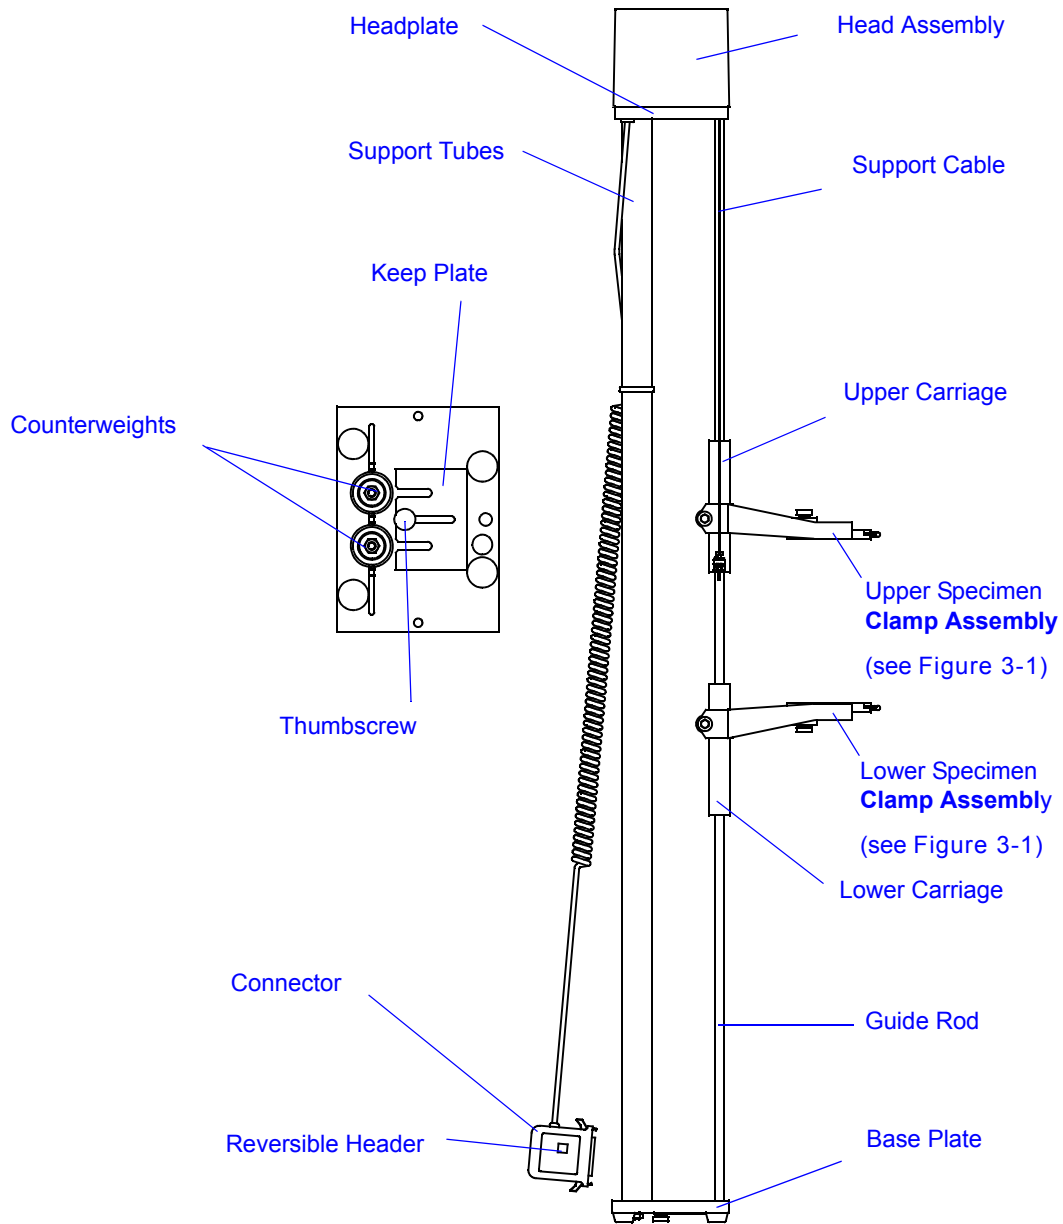
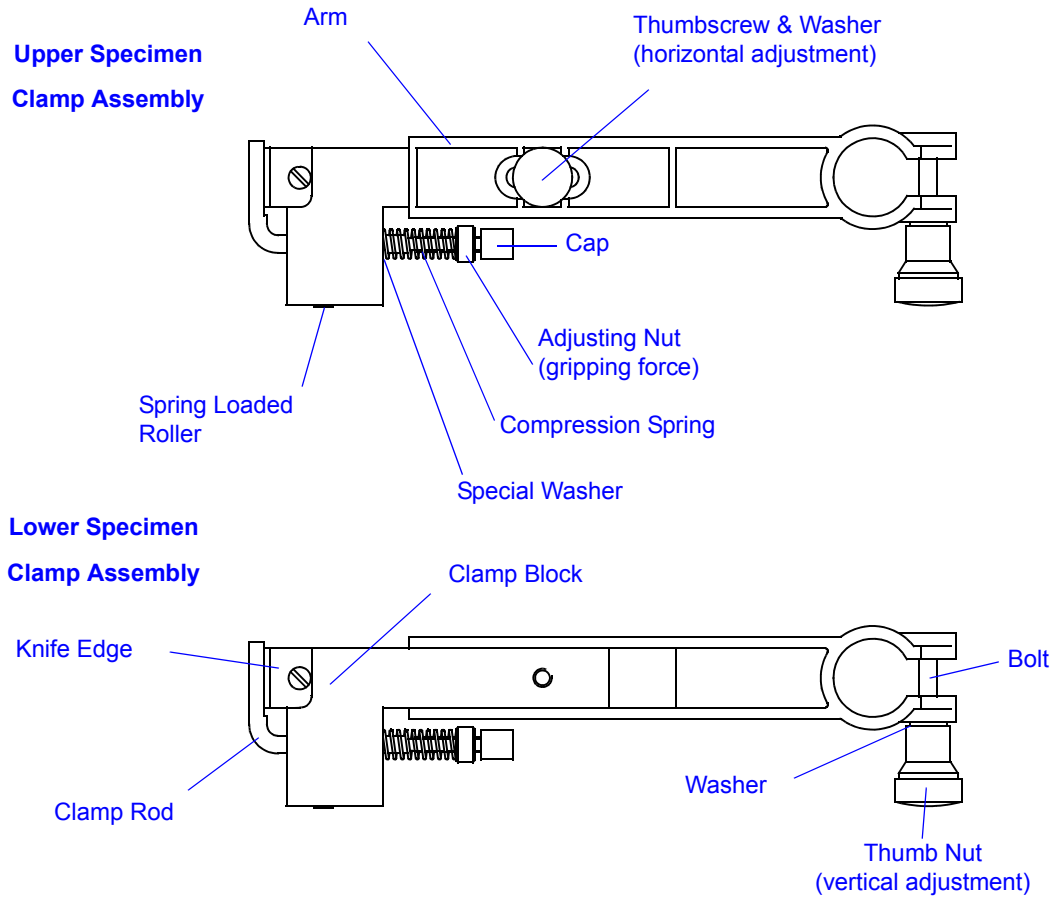

Figure 1-1. The Long Travel Elastomeric Extensometer
Figure 3-1. Specimen Clamp Assemblies
Operation of the Long Travel Elastomeric Extensometer is based on a pair of separately counterbalanced clamp assemblies (see Figure 1-1) which attach to the specimen.
5. Remove the thumb nuts, washers and bolts from the arms. Slide the arms over the top of their respective carriage, as shown in Figure 1-1 and Figure 3-1. Replace the thumb nuts, washers and bolts.
6. Remove the thumb nuts, washers and bolts from the arms. Slide the arms over the top of their respective carriages, as shown in Figure 1-1 and Figure 3-1. Replace the thumb nuts, washers and bolts.
5. Remove the thumb nuts, washers and bolts from the arms. Slide the arms over the top of their respective carriages, as shown in Figure 1-1 and Figure 3-1. Replace the thumb nuts, washers and bolts.
1. Release the thumbscrews holding the clamp blocks to the arms (see Figure 3-1).
The specimen clamp rods are spring-loaded. The gripping force can be altered using the adjusting nut shown in Figure 3-1.